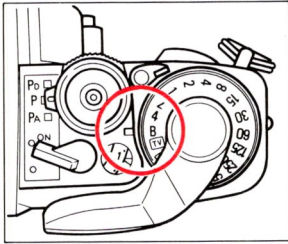

Fig. 60
1. Set the Shutter Speed Dial to "B". (Fig. 60)